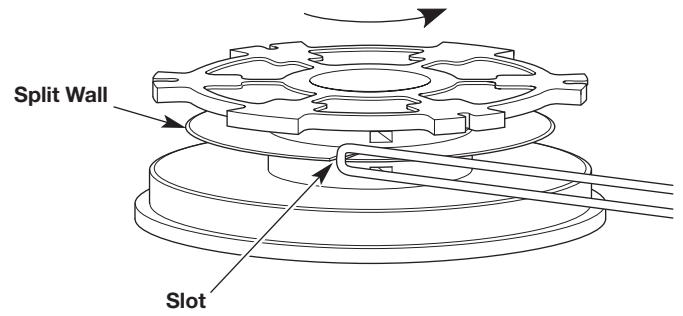

Fig. 18
2. Insert the loop into the slot in the split wall (Fig. 18). Wind the line tightly in the direction shown on the bottom of the inner reel until about 6 inches (150 mm) of line remains. Keep the top half of the line above the split wall and the bottom half of the line below the split wall.